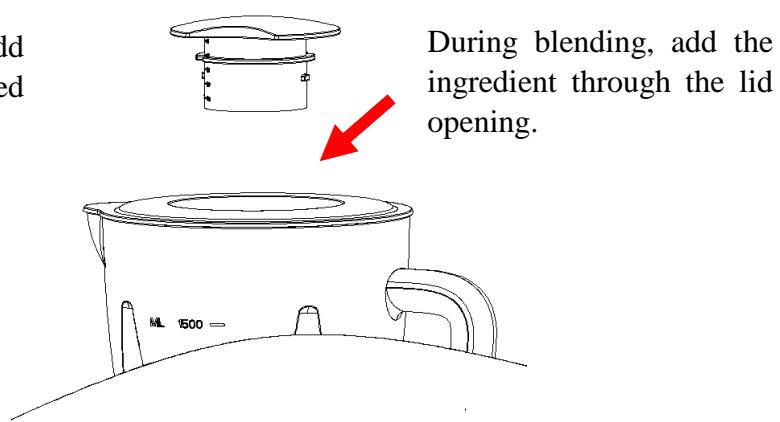

Fig.7
6. For quick or delicate blending tasks, turn the speed knob to P position and hold for a few seconds and then release, the knob will reset to O position automatically. Operate several times until the consistency you want is obtained. If you want to add ingredients while the blender is working, remove the measuring cup and place through the lid opening. (See Fig.7)